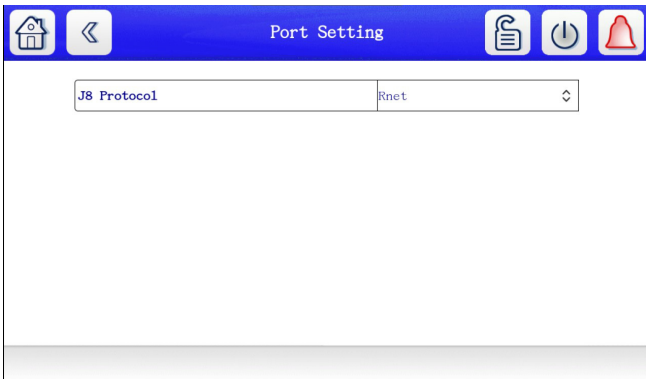

Fig. 18 — Serial Port Configuration Screen (Rnet)
- 7. Press the up/down arrows to pull down the drop down menu and click on “Rnet” to configure the J8 port to Rnet (see Fig. 18).